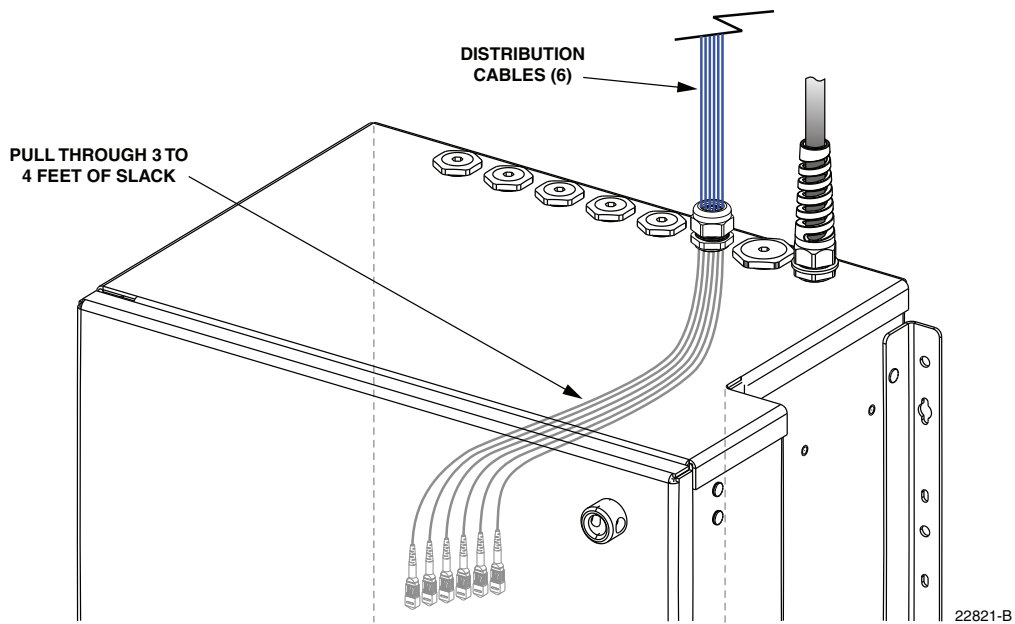

Figure 49. Inserting Distribution Cables into Compression Fitting
7. Insert the connectorized ends of the six distribution cables through the installed compression fitting as shown in Figure 49 and pull through 3 to 4 feet of cable slack into the cabinet.